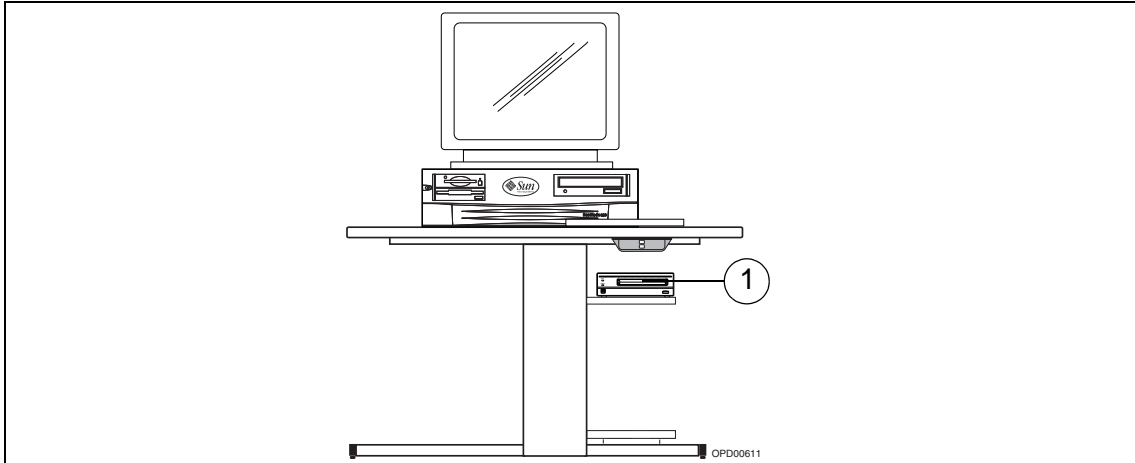

Fig. 8 MO Shelf
8. Mount the MO unit shelf on the right below the tabletop (1/Fig. 8).
9. Place the MO unit to the right on the shelf (1/Fig. 8).